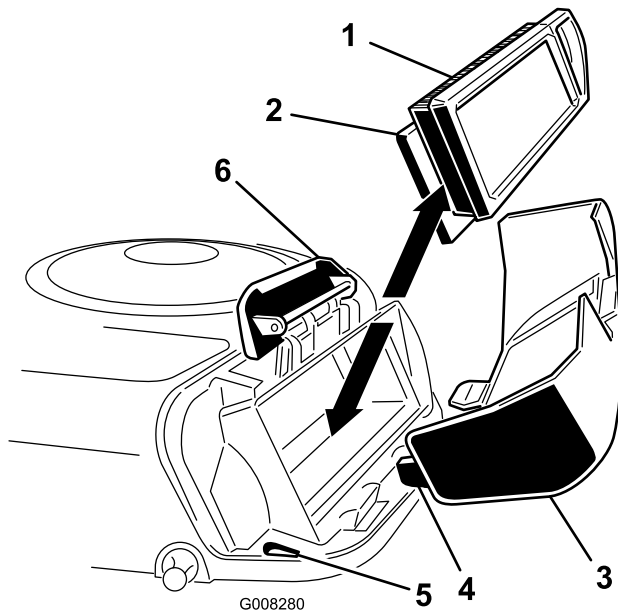

Figure 22
4. Carefully slide the paper element and the foam element from the blower housing (Figure 22).
2. Align the tabs on the air cleaner cover with the slots of the blower housing (Figure 22). Hook the handle onto the cover and press down on the handle to lock the cover in place.